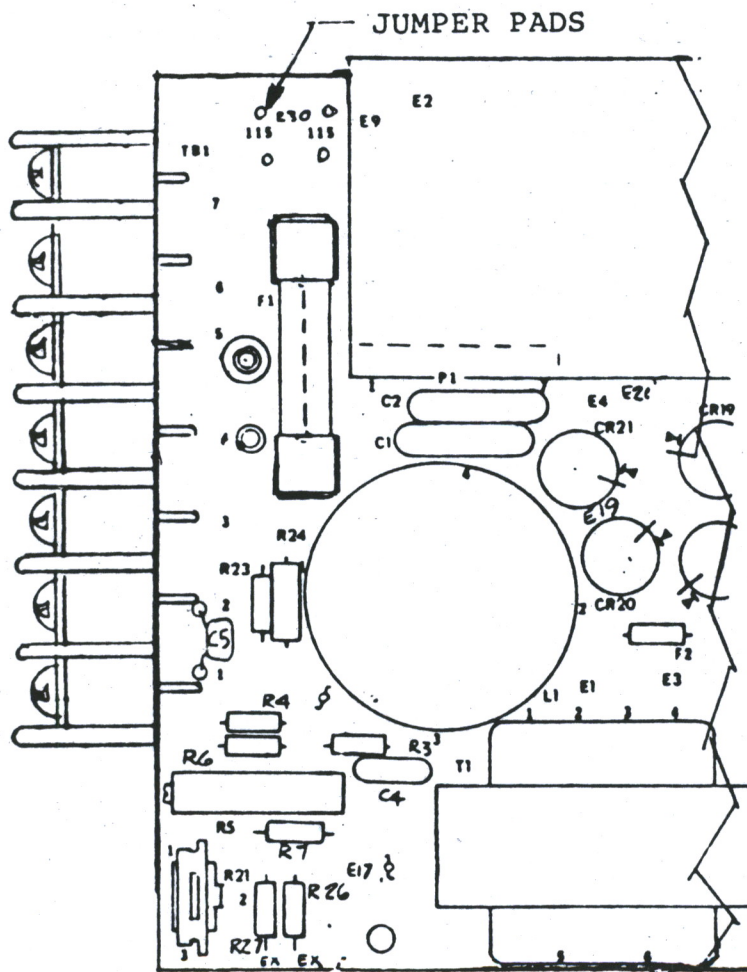

Figure 5A
2. Input voltage requirements are 115VAC or 230VAC $\pm$ 10%, 47-63Hz internally selectable. The unit is factory wired for 115V or 230V line as indicated on the name plate. Power supplies with 115-230VAC input voltage may be operated with either voltage. For 115VAC operation, connect jumpers between pads marked 115. See Figure 5A. For 230VAC operation, remove 2 jumpers from pads marked 115 and connect jumper between pads marked 230.